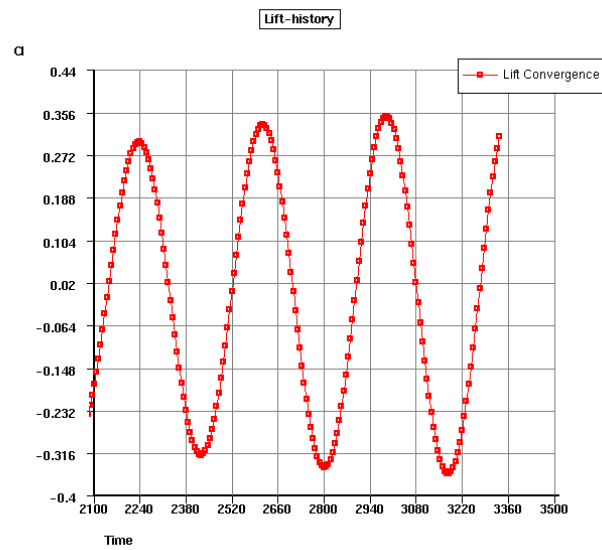

Figure 5.9.1: CL History
- iv. Click Apply to update the XYplot window (Figure 5.9.1).